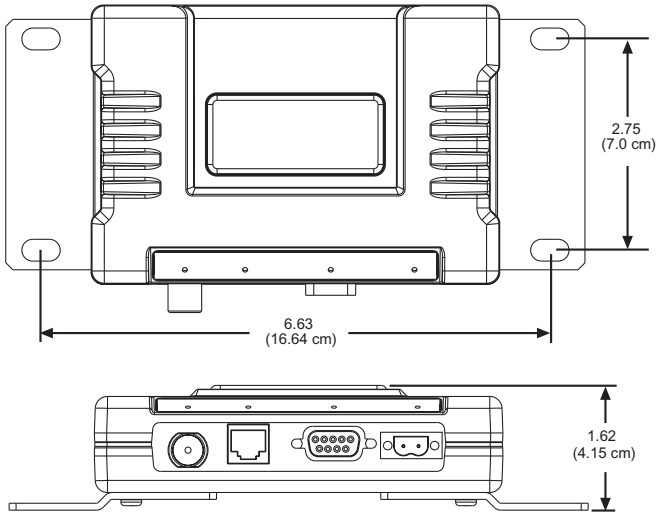

Figure 11. Transceiver Mounting Dimensions
1. Mount the transceiver to a stable surface using the brackets supplied with the radio. (Fasteners/anchors are not supplied.) Figure 11 shows the dimensions of the transceiver case and its mounting brackets. If possible, choose a mounting location that provides easy access to the connectors on the end of the radio and an unobstructed view of the LED status indicators.